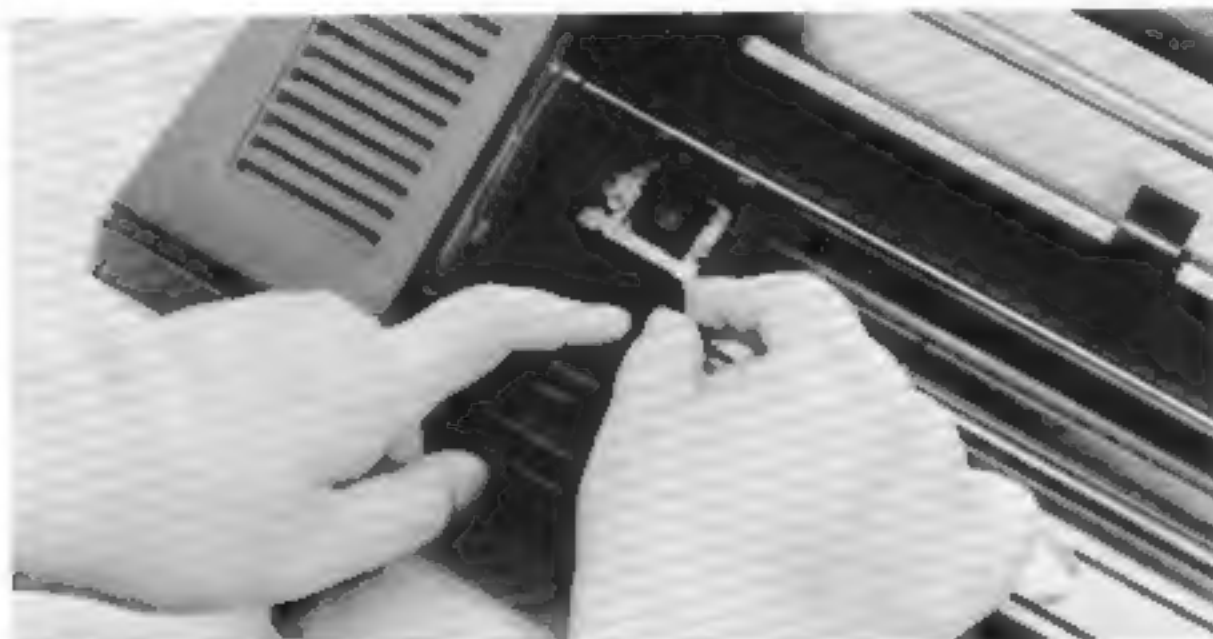

Figure 4
3. While turning the cassette knob in the direction indicated by the arrow, press downwards on the right hand side of the cassette until it locates down into the right hand latching-clip (see Figure 4).